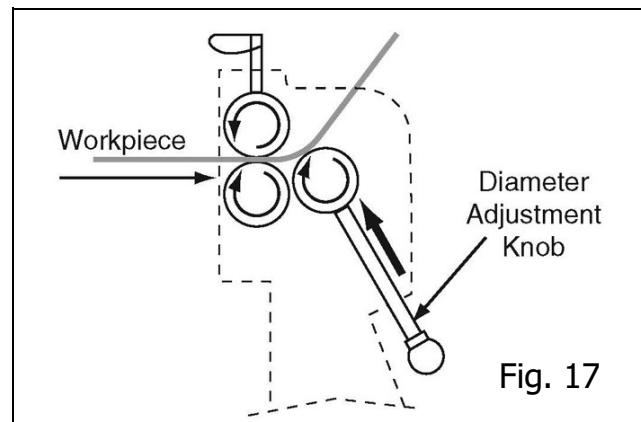

Fig. 17
4. Turn the diameter adjustment knobs clockwise to lift the rear roller until the desired radius bend is reached, as illustrated in Figure 17. Make sure to turn the knobs equal amounts so the rear roller is always parallel with the other rollers. Failure to do so will create a larger radius on one end than the other, resulting in a cone shape.